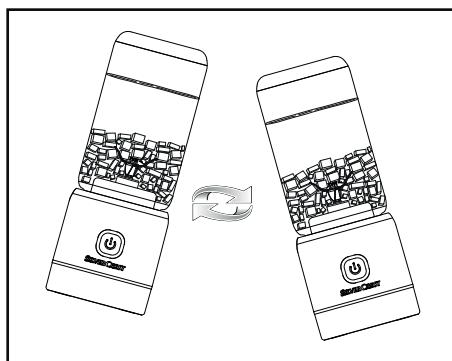

Fig. 1
- 4) To distribute the ingredients better, you can move the appliance while it chops the food. To do this, hold the appliance in your hand and make sweeping back and forth movements with it (see Fig. 1). Make sure that the blender jug **4** does not come off the motor unit **9**.